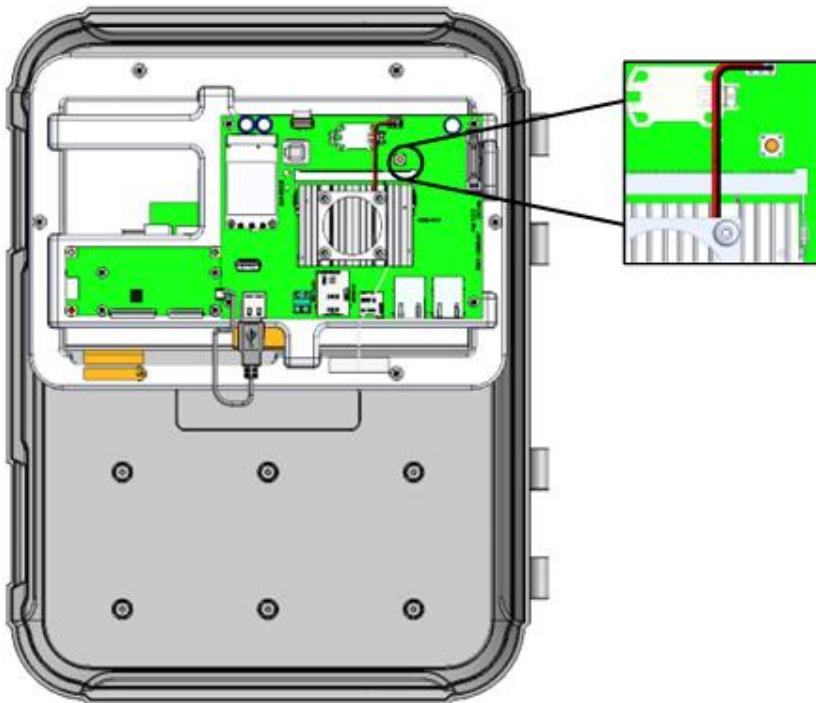

Figure 7: CPU Reset Button
- To reset the CPU and the user interface, press the button shown in Figure 7: CPU Reset Button.